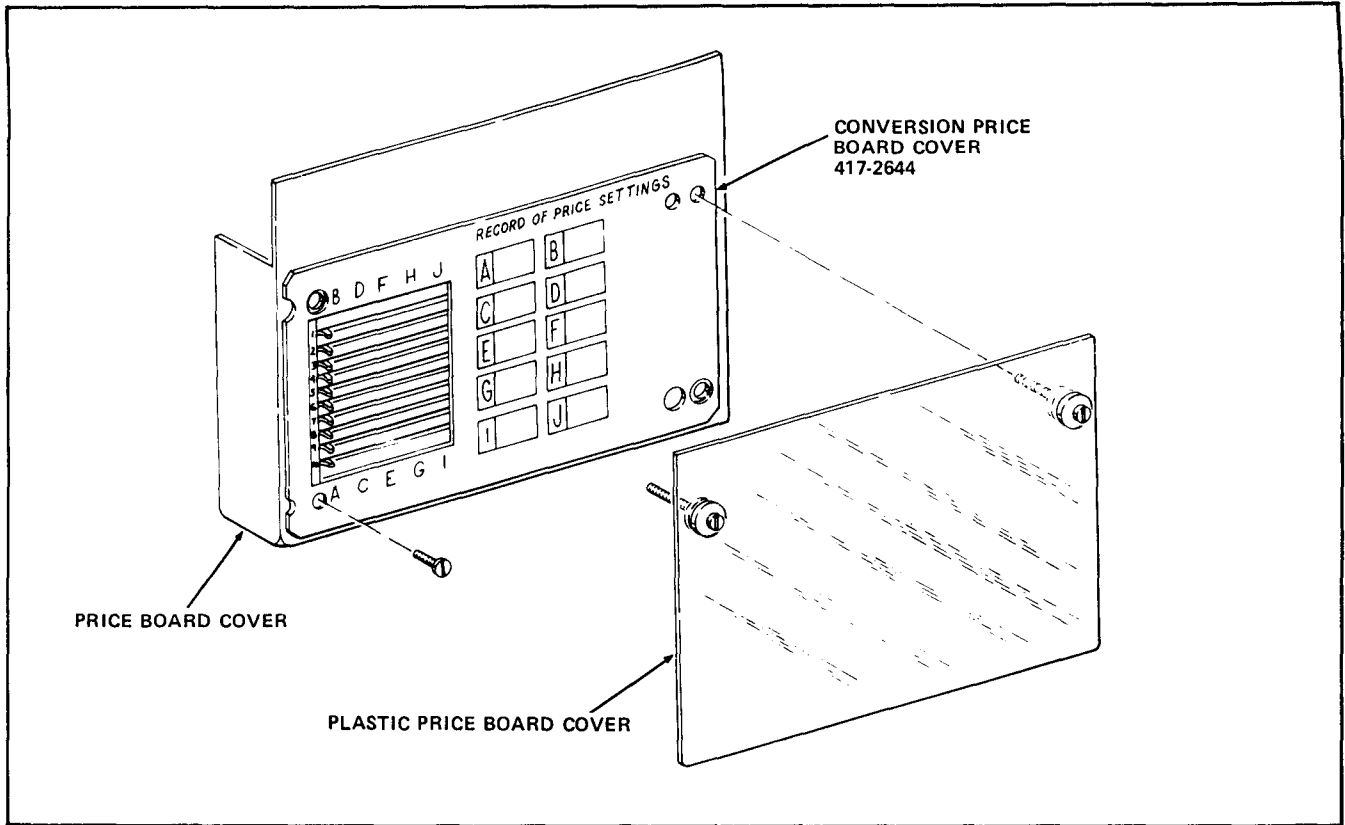

FIGURE 6
9. Place the Conversion Price Board Cover included in the kit, part number 417-2644, over the Price Board Cover as shown in Figure 6 and install one of the Screws removed in Step A-11, in the hole in the lower left corner of the Conversion Price Board Cover.
11. Install the Plastic Price Board Cover and attaching parts on the Price Board Cover as shown in Figure 6.